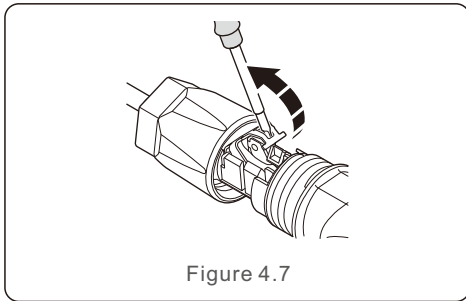

Figure 4.7
- Step 2. Open the spring using a screwdriver as below. (see figure 4.7)